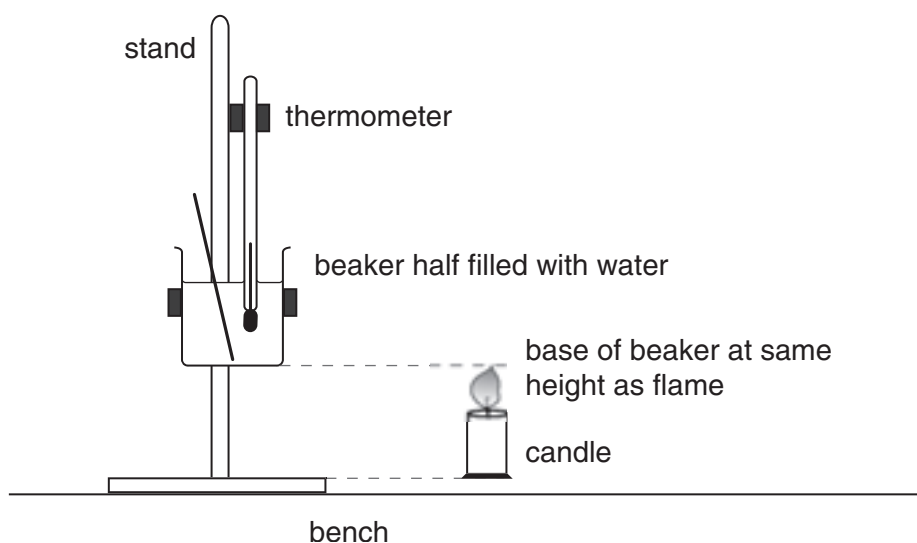

Fig. 2.1
- (i) The candidate is to set up the apparatus as shown in Fig. 2.1.
Candidates will be required to measure the mass of the empty beaker and then to determine the mass of water in the beaker when it is half full. They will then be required to set up the apparatus as shown in Fig. 2.1 and to measure the temperature of the water in the beaker. Candidates will then light the candle at the side of the apparatus and adjust the height of the base of the beaker until it is at the same height as the top of the candle flame. After this they will heat the water in the beaker for two minutes and determine the rise in temperature.